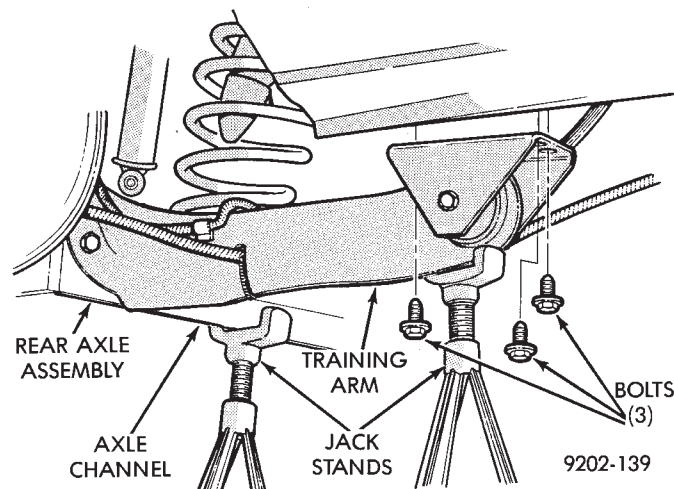

Fig. 4 Attach Hanger Brackets to Frame
(1) Raise and support axle on jack stands.
(2) Attach pivot bushing hanger brackets to frame rail (Fig. 4). Tighten screws to 61 N•m (45 ft. lbs.) torque.